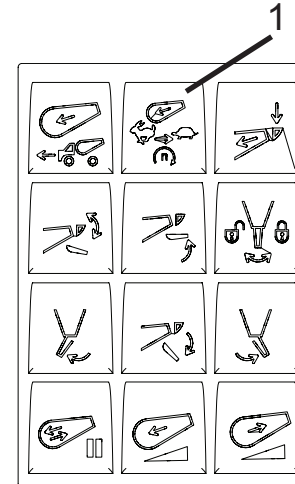

Figure 41
2. Press the MIX button on the optional in-cab keypad (Figure 41, Item 1). The button indicator will illuminate. The MIX icon will display on the drum control on the touch screen monitor.